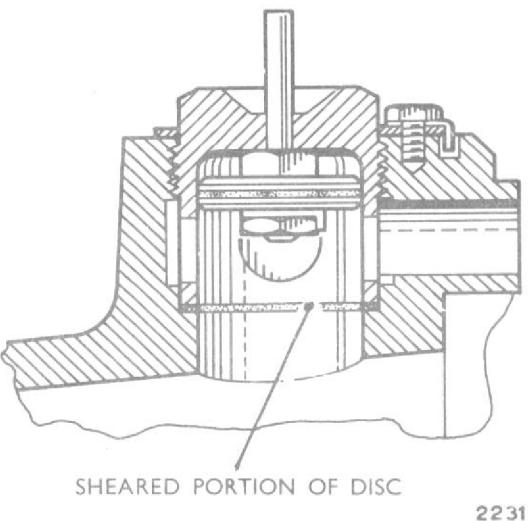

Fig.6 Sectional view of sheared safety disc
**Safety discs (fig.6)**
31. (1) Enter the air intakes and remove access panels from air intake inner skins.